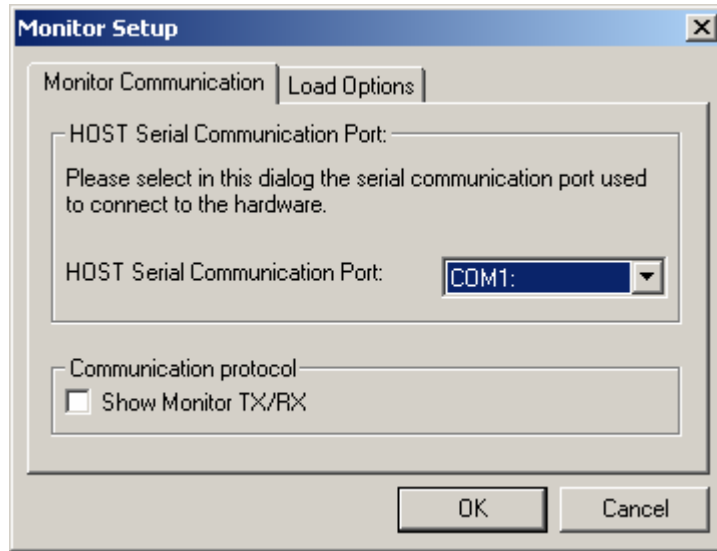

Figure 14
- **Figure 14** - The Monitor Setup dialog box will pop up. Select the COM port that your HC12 module is connected to (eg. COM1, COM2, etc). Click OK